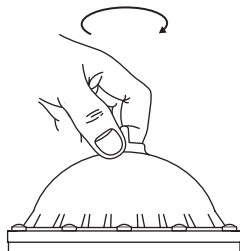

Fig. 6
- Slightly unscrew the valve on the top of the DOSATAK® lid (Fig.6);